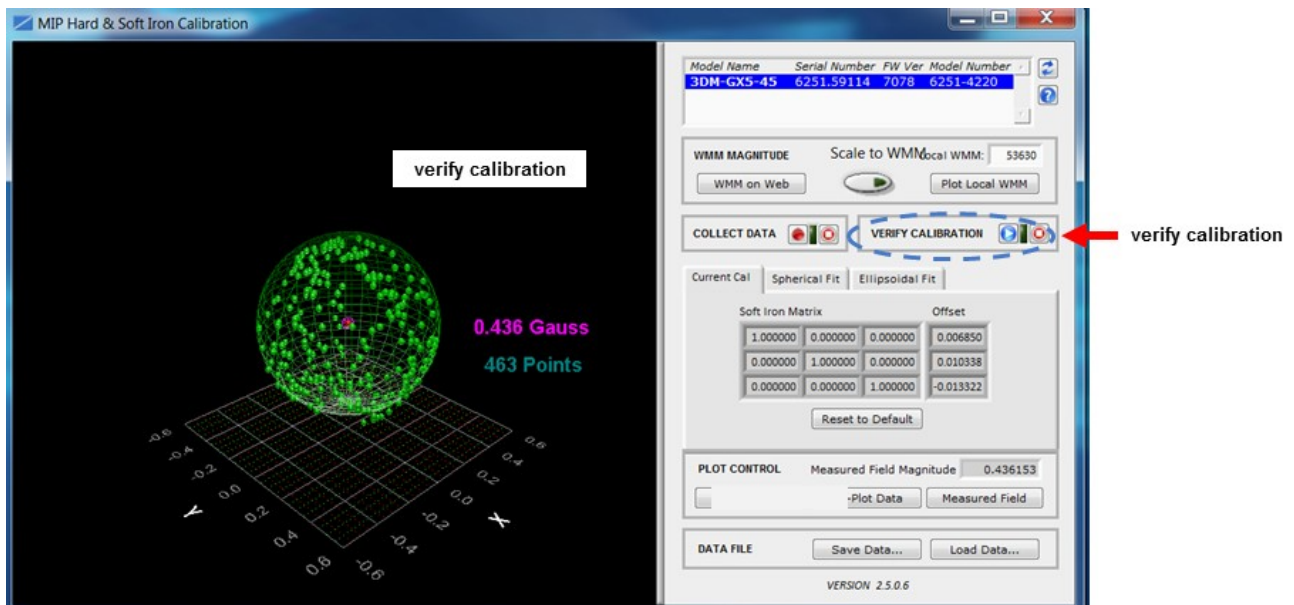

Figure 28. Verify Calibration
9. Start a calibration verification by clicking the Start Streaming Data button next to Verify Calibration (Figure 28 - Verify Calibration). Rotate the device in all orientations in the same way as during calibration. When completed click the Stop Streaming Data button next to Verify Calibration. The resulting data points should be on or near the spherical grid. Hold the left mouse button and drag to rotate the image. The mouse wheel can be used to zoom in and out. If the fit is not close, the sensor may require re-calibration. If it is close, as shown, calibration and verification is complete.